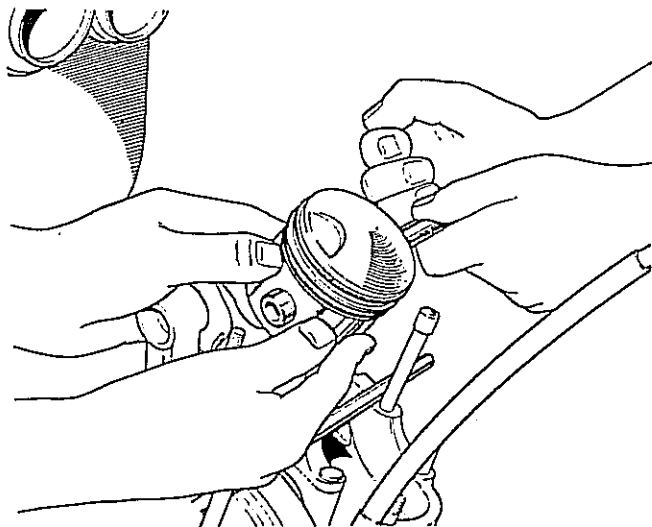

Fig. C11 Supporting piston body whilst pushing out gudgeon pin
- 5 Before removing the piston, support the body (*Fig. C11* shows the piston body being supported by a second operative) and push out the first wrist (gudgeon) pin, then the second, using a suitable sized implement such as an aluminium drift.